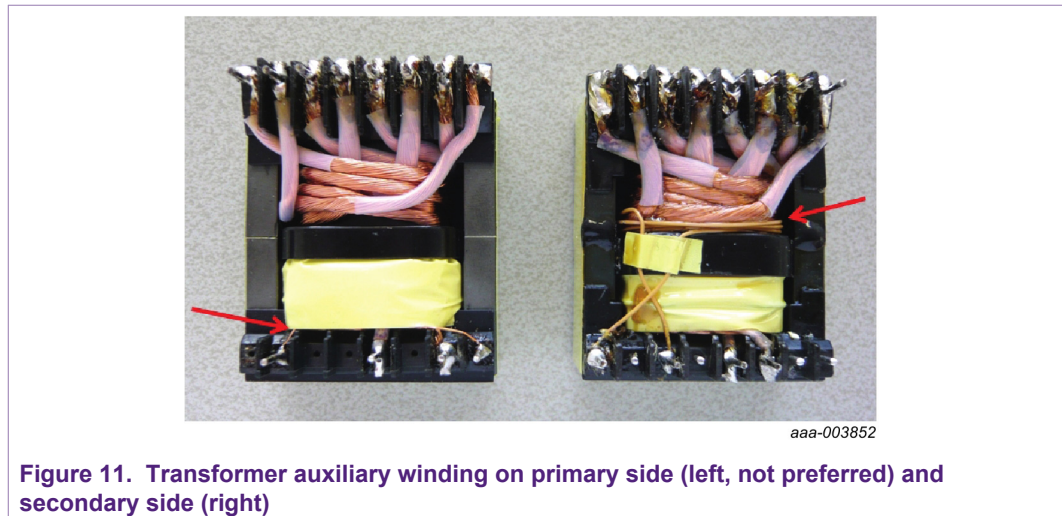
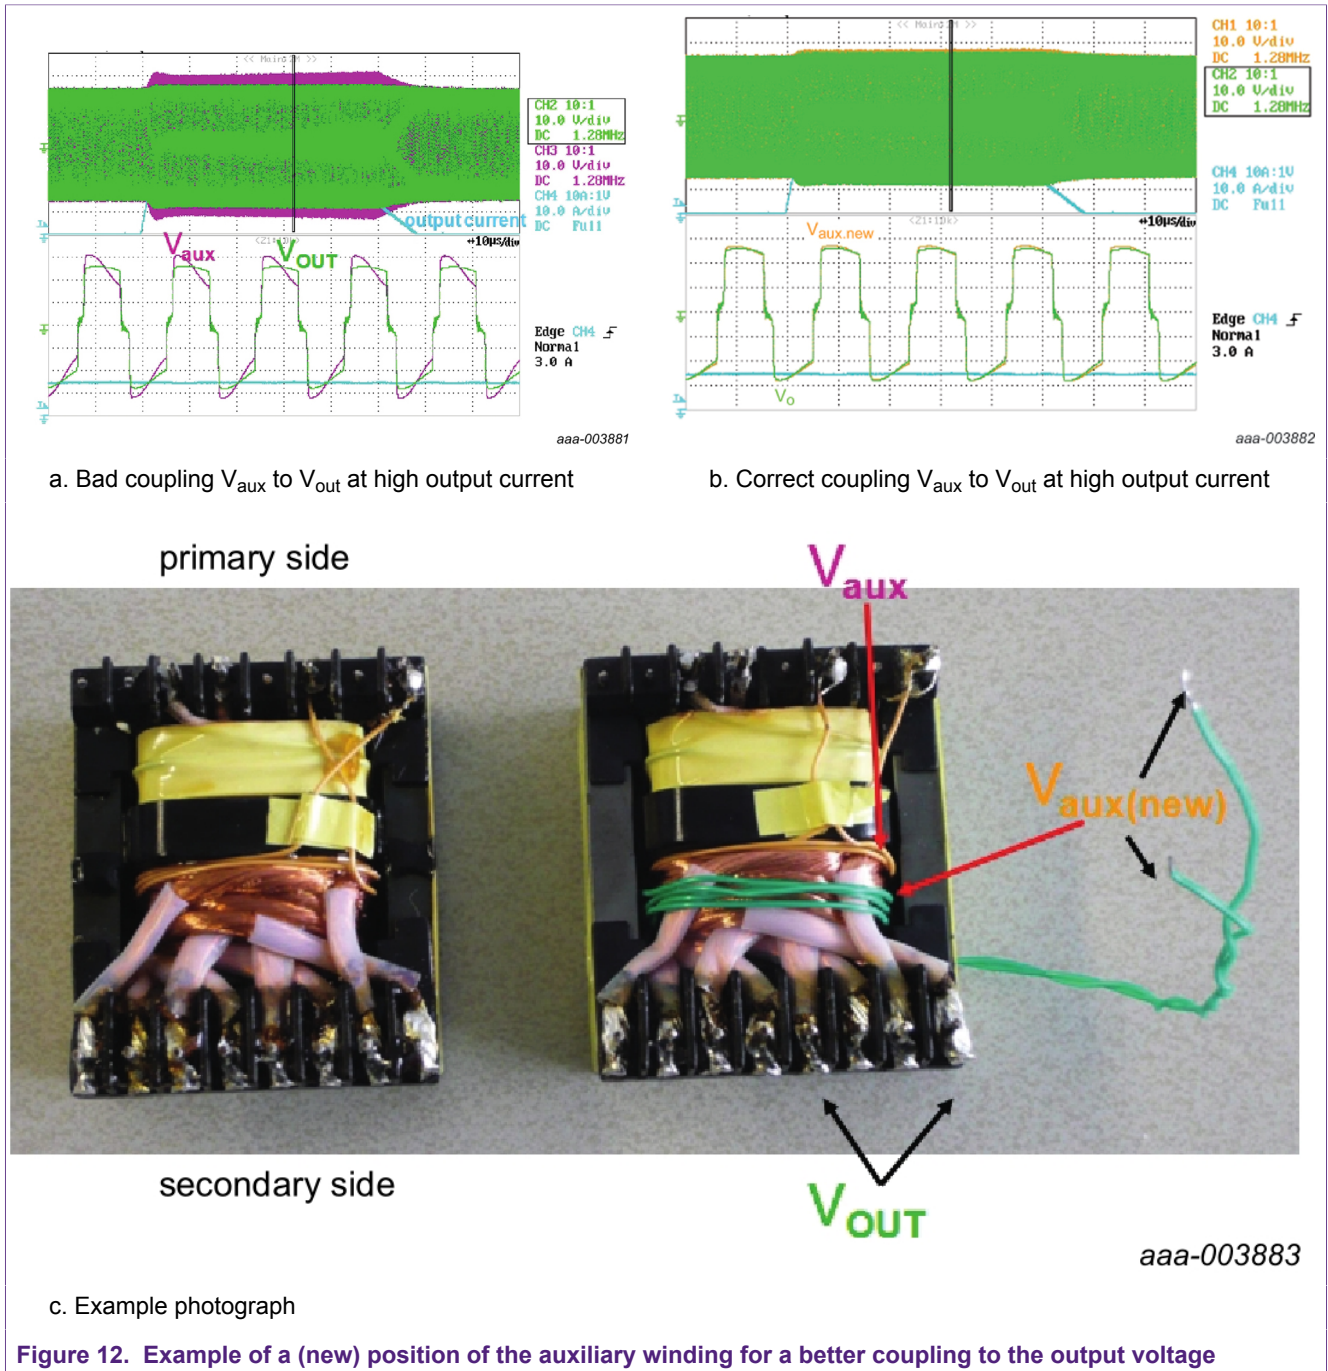

Figure 11. Transformer auxiliary winding on primary side (left, not preferred) and secondary side (right)
Figure 12. Example of a (new) position of the auxiliary winding for a better coupling to the output voltage
- To use the auxiliary winding voltage for the IC supply and for HBC output voltage measurement (using SNSOUT), the auxiliary winding supply must be an accurate representation of V_{O} . To ensure a good coupling, place the transformer auxiliary winding physically on the secondary output side. When the transformer contains separate sections for primary and secondary winding (see Figure 11 and Figure 12), this aspect is more critical than on transformers that have all windings in one section.
V_{SNSOUT} and/or V_{SUPIC} can contain unwanted primary voltage because of less optimal position of the auxiliary winding. When the transformer contains separate sections for primary and secondary winding (see type in Figure 11 and Figure 12), this aspect is more critical than on transformers that have all windings in one section. This deviation can seriously endanger the feasibility of the SNSOUT sensing function. It can also have a serious effect on the SUPIC voltage.
To avoid a primary voltage component on the auxiliary voltage, the coupling of the auxiliary winding with the primary winding must be as small as possible. Place the auxiliary winding on the secondary windings and physically as remote as possible from the primary winding. Figure 12 shows the differences in results using comparison of the secondary side position.